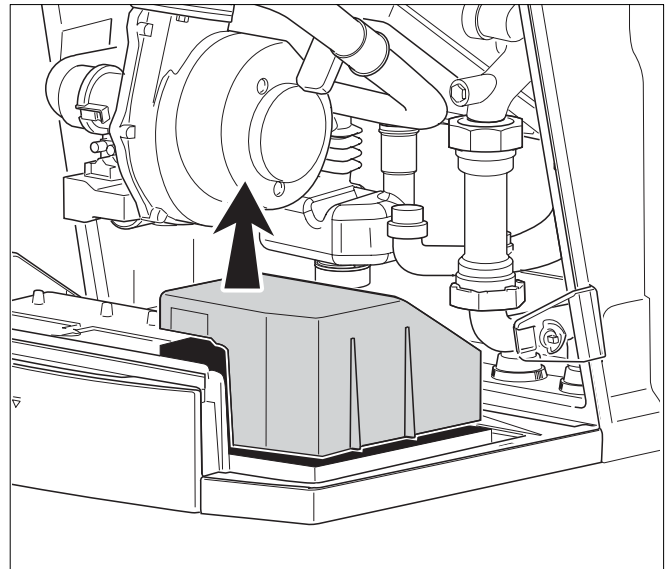

Fig. 91 Removing the cover from the connection box
- Remove the cover from the connection box (see fig. 91).